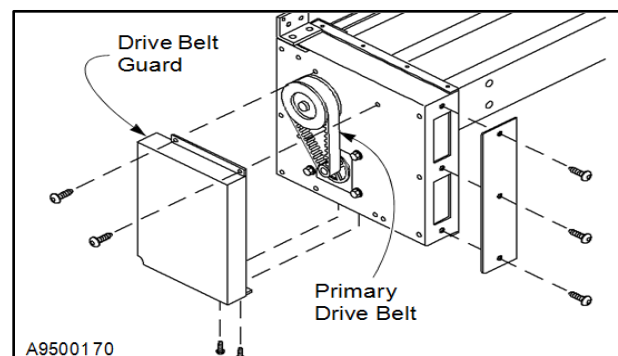

Figure 38
The primary drive belt that runs from the gearbox pulley to the primary drive shaft pulley is behind the drive belt guard located on the left end of the head assembly. (See Figure 38.)
4. Adjust the primary drive belt tension by sliding the drive motor assembly up or down to decrease or increase the belt tension. (See Figure 38.)